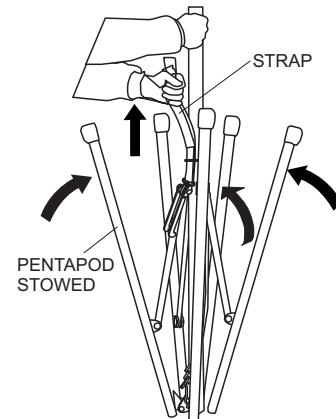

Figure 32. Stowing the Pentapod
9. Continue pulling upward on the mast until all the pentapod legs are fully retracted and are stowed. See Figure 32.